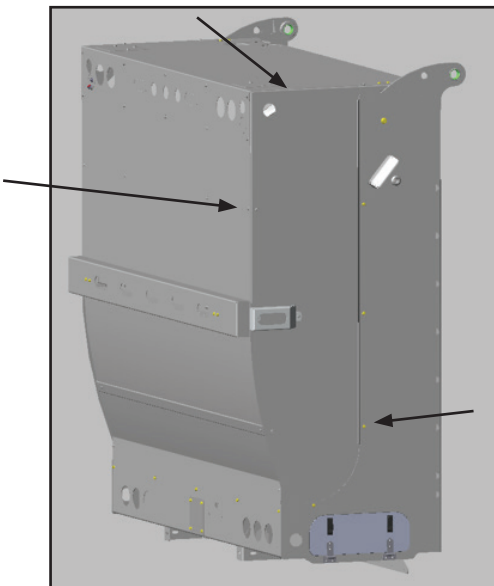

Figure 9
3. Remove and retain exterior fasteners that secure the old cover panel to the tailgate (as shown in Figure 9. Some fasteners on top, forward, rearward).